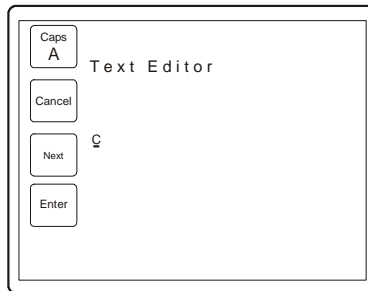

Figure 4.3: Text Editor Menu
5. Press the PAGE NAME soft key. The TEXT EDITOR menu will open (figure 4.3).